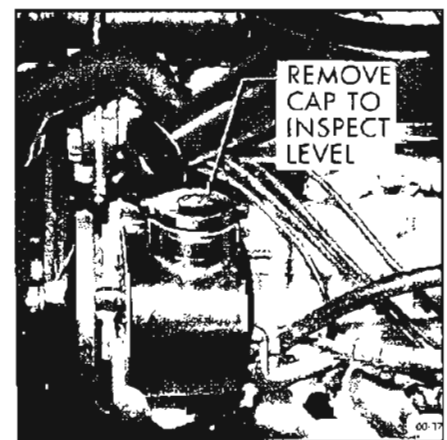

Figure 00-37—Power Steering Pump Reservoir
**Power Steering Gear.** Thoroughly clean dirt from reservoir cap on top of oil pump, then remove cap. With system warmed up, maintain level with Buick power steering gear fluid or equivalent. See Figure 00-37.